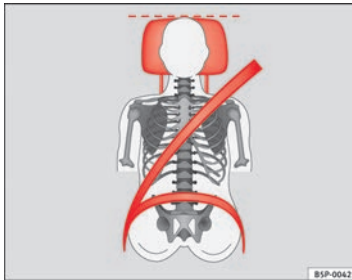
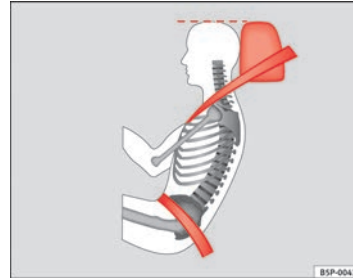

Fig. 68 Front view: head restraints and seat belts correctly adjusted
Fig. 69 Side view: head restraints and seat belts correctly adjusted
- Adjust the head restraint so that the top is at the same level as the top of your head or as close as possible to the same level as the top of your head, at least at eye level ⇒ Fig. 68 and ⇒ Fig. 69.